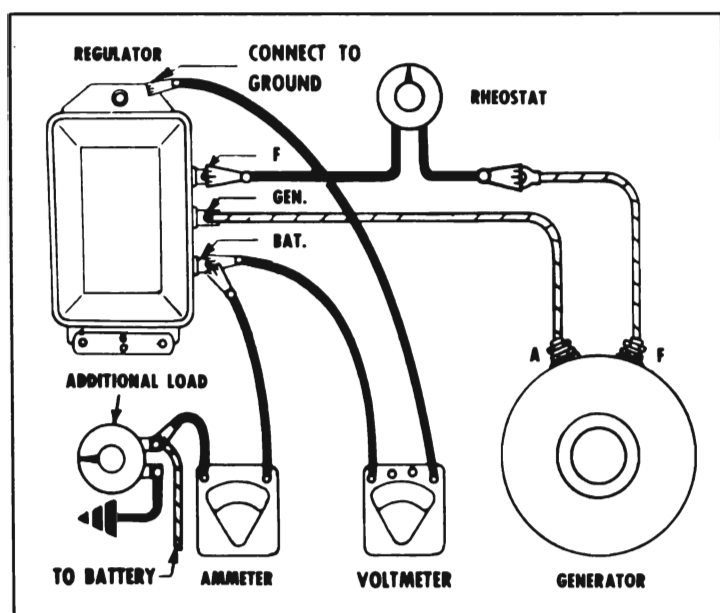

Figure 10-19—Testing Current Regulator
15. Turn on all accessory load (lights, radio, blower, etc.) and connect an additional load from the charging circuit to ground and connect ammeter as described in your test instrument pamphlet. Adjust load to lower voltage to 13.0 volts. See Figure 10-19.